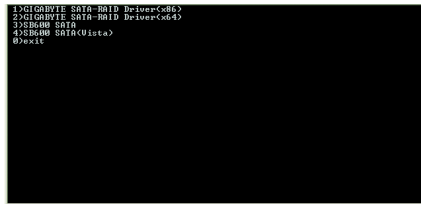

Figure 2
Step 2: When the controller menu (Figure 2) appears, remove the startup disk and insert the blank formatted disk. Select the controller driver by pressing the corresponding letter from the menu. For example, from the menu in Figure 2:
Use an alternative system and insert the motherboard driver disk. From your optical drive folder, double click the **MENU.exe** file in the **BootDrv** folder (Figure 3). A command prompt window will open similar to that in Figure 2.